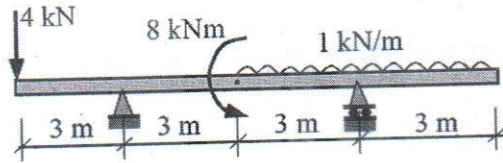

Fig. 4
- (b) Draw shear force and bending moment diagrams of the beam shown in Fig. 4. (15)